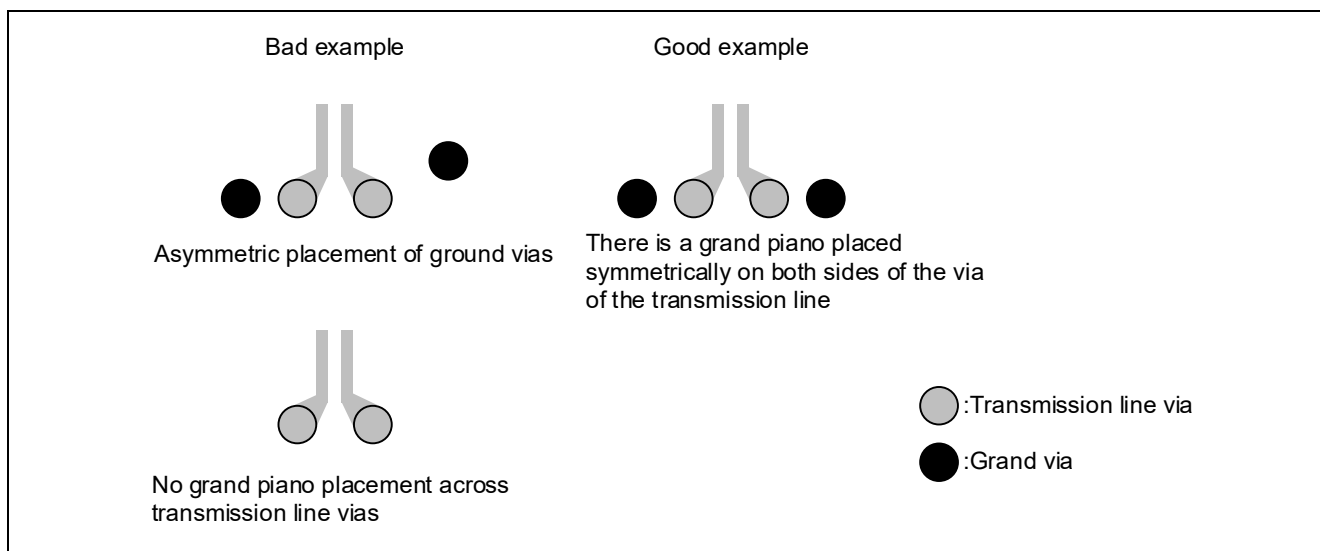

Figure 2.2 Ground via placement example
- Place ground vias symmetrically on both sides of the transmission line. **Figure 2.2** shows an example of ground via placement.